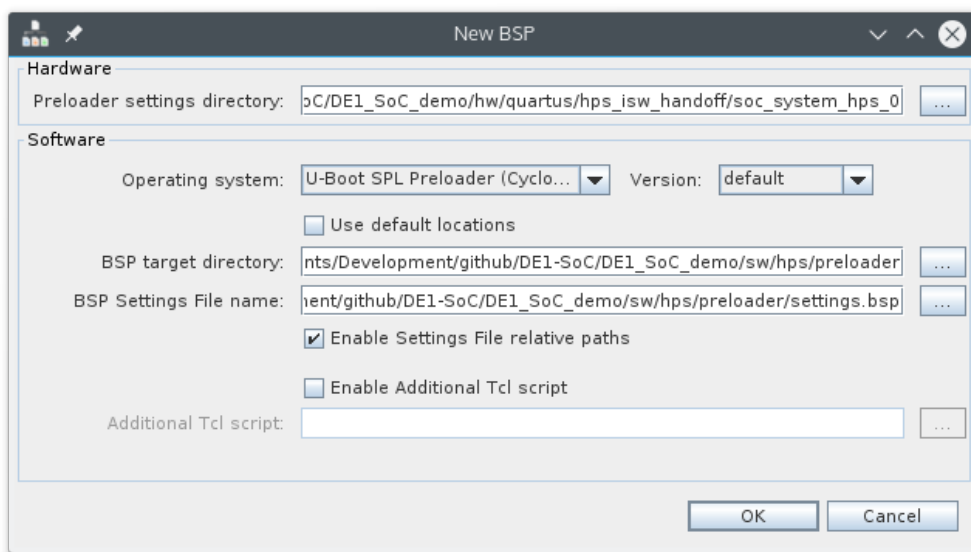

Figure 12-1. New BSP Dialog
- b. Disable the “Use default locations” checkbox and under the “BSP target directory”, select the “DE1\_SoC\_demo/sw/hps/preloader” directory. You should have something similar to Figure 12-1.